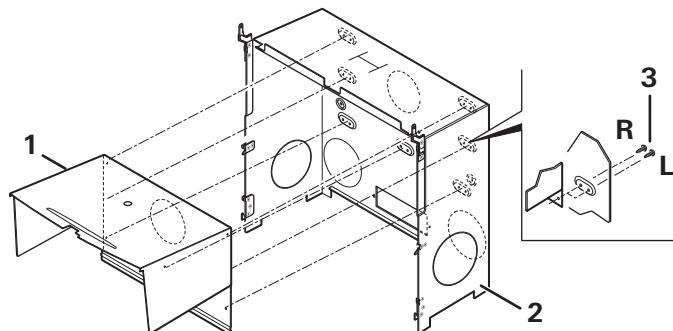

Fig. 12
- **S 5004:** Secure the installation box interior part (Fig. 12-1) using 7 3.5 x 9.5 mm self-tapping screws (Fig. 12-3) to the installation box exterior part (Fig. 12-2). Note the right- (Fig. 12-R) or left-hand installation (Fig. 12-L) of the S-heater.